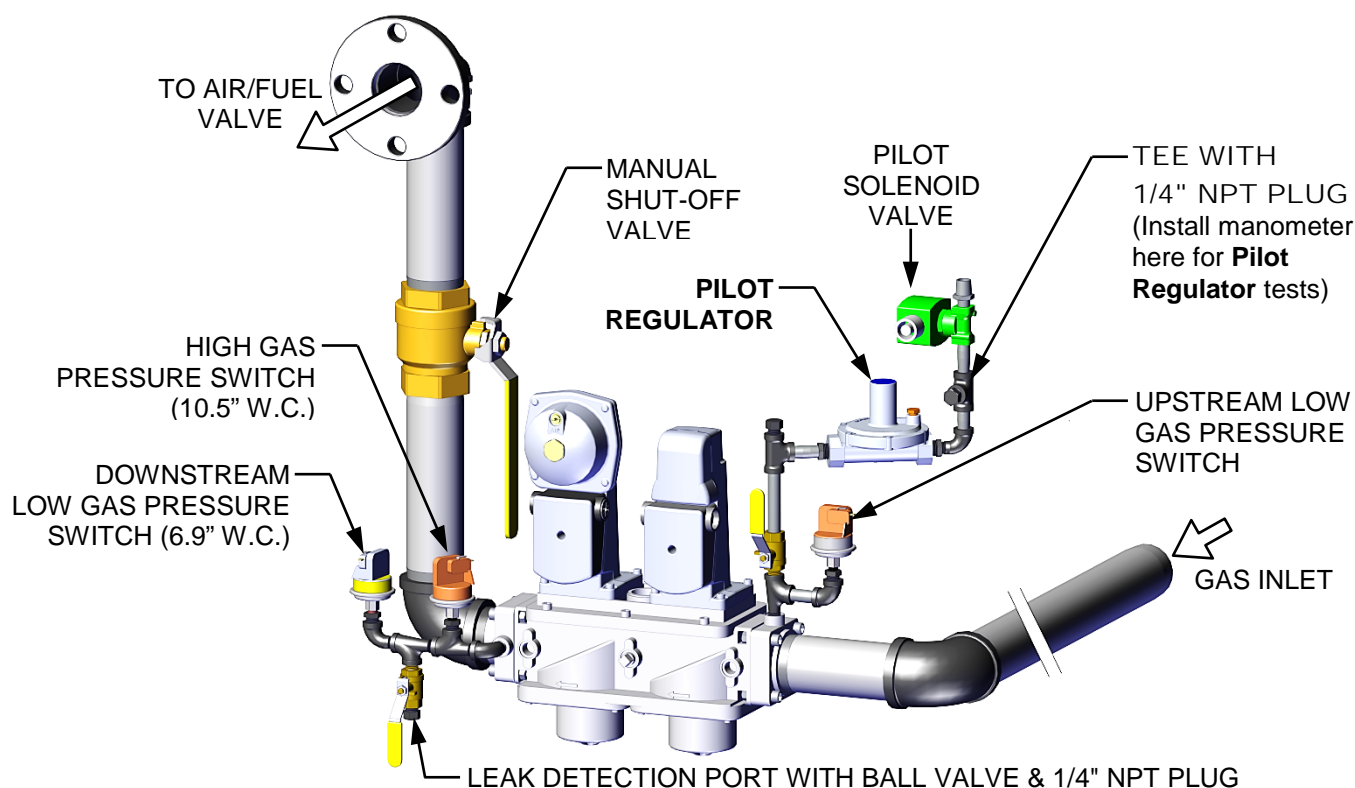

Figure 7-3: Pilot Regulator Mounting Location
3. Remove the 1/4" NPT plug from the Tee on the outlet side of the Pilot Regulator (Figure 7-3) and insert a NPT-to-barbed adapter fitting.
5. Remove the cap from the Pilot Regulator to access the gas pressure adjustment. Rotate the regulator adjustment (beneath cap) clockwise (CW) to its highest possible pressure setting.
3. Remove the pipe plug from the 1/4" NPT port on the outlet side of the Pilot Regulator (Figure 7-3) and insert a NPT-to-barbed adapter fitting.
5. Remove the cap from the Pilot pressure regulator and rotate the regulator adjustment (beneath cap) clockwise (CW) to its highest possible pressure setting.